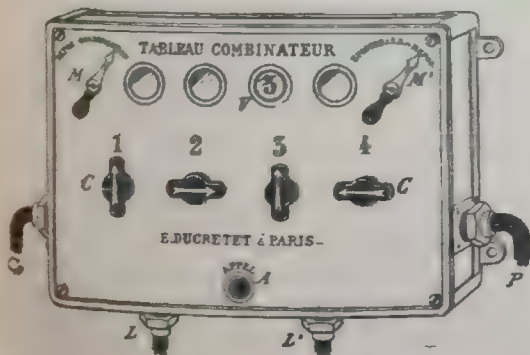
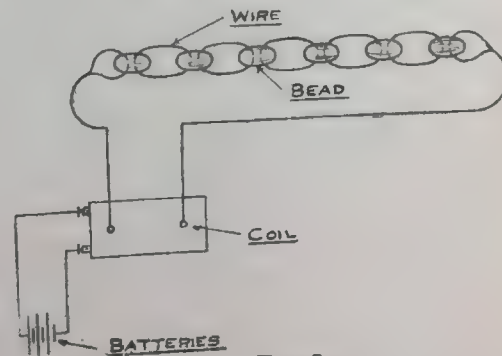

Fig. 1
FIG. 2-
-FIG. 2-
A simpler arrangement is shown in Fig. 2, and in which the results are about the same. Although it must be said it is harder and rather inconvenient for quick adjusting.
myself and a few of my friends on coils up to 4 inches with the same gratifying results. The object in this construction is to get a rapid hammer blow action both to and away from the contact points. This is done by relieving the main spring M in Fig. 1 of part of the weight of armature A by adding an extra spring Ax at end of spring M, and have means to limit its range which is done by placing the extreme end, between two adjustable, solid contacts shown at H and K. When K is so adjusted (at the block F to which it is fastened) by means of adjusting screws G1, G2, armature A is drawn slightly away from core at C. After
The springs of this arrangement are the same as in Fig. 1. S shows a screw or threaded brass rod set in head of the coil and on which are two nuts, Y1 and Y2, corresponding to H and K in Fig. 1. N1 and N2 are lock nuts for nuts Y1 and Y2. For above vibrators the electrical connections are the same as the ordinary vibrator. The additional parts being for mechanical action.
A little experimenting will soon enable one to quickly adjust the above vibrators without any trouble, which when properly done, will be found very adaptable for wireless work. Fig. 2 is to be adjusted in same manner as Fig. 1. As so much depends on the springs, especially spring Ax, which must be stiff and light, it would be useless to try to give further directions for adjusting.
metal case so as not to be affected by moisture. The maneuver is very simple, and to bring any two posts into connection with each other, the operator has only to turn the handles of the switches C, Fig. 1, in the direction facing each other, or in other cases to use the indicators MM'. If the same order is to be sent to several posts from the officer's post, we turn all the handles to the left in the direction of the indicator M. Any of the posts can be used as a central post by first obtaining the proper connection, so that the officer can send orders from any point. A drop-shutter board and electric bell, seen on the right, serves to give the indications to the central post.
Connect the beads as shown in Fig. 2, and start the coil. The spark will jump at every gap in the beads and will show
ing, and construct a switch that will announce the arrival of his victim. Get two pieces of hard wood a foot long and two inches wide, four blocks of wood two inches long and an inch square, an old bed spring and some scraps of sheet brass (fig. 2). This is sufficient material for two switches, one for each end of the fence. As both are made in the same manner, I will describe one only. Nail the two blocks on the top of the fence 10 inches apart. Tack a piece of the sheet brass, two inches by three-quarters, on the top of
Fig. 2 shows a tube which gives a very pretty effect in the dark. It is made of a glass tube about 1/4 inch in diameter, and 6 inches long. Cut a piece of tinfoil 1/8 inch wide and long enough to go the full length of tube when wound in a spiral, each turn being 1 inch apart. Next give the tube a coat of medium thick shel-